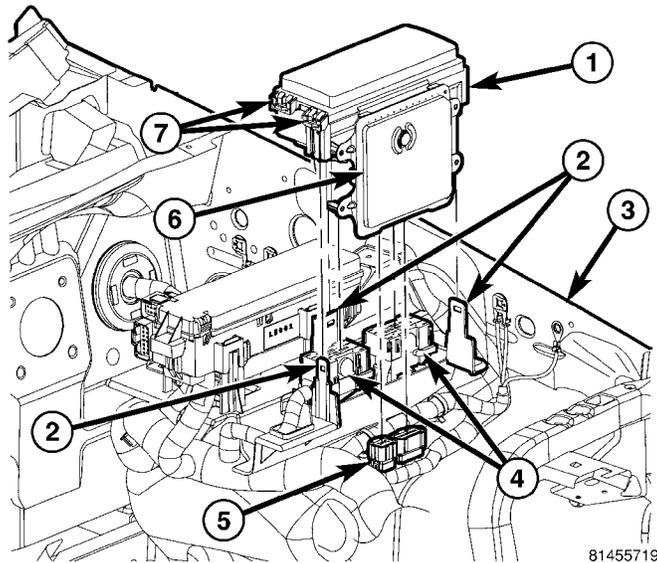

Fig. 1 IPM REMOVAL
10. Leaving the FCM attached to the Integrated Power Module (IPM), remove the IPM from its plastic support bracket (Fig. 1).